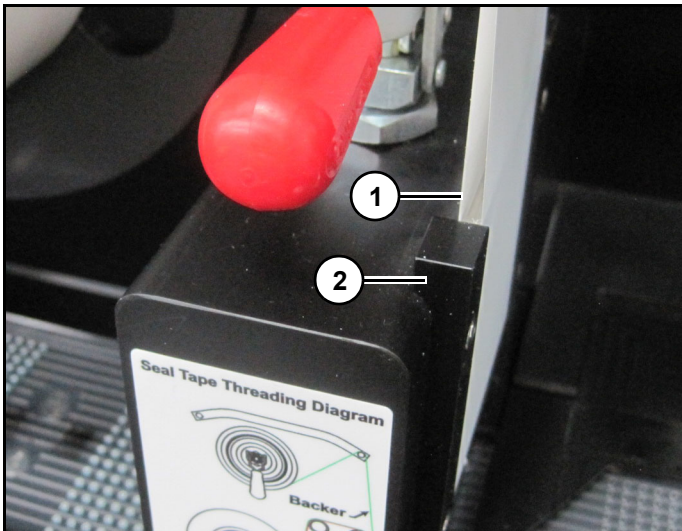

Figure 6
5. Thread seal tape (1) into seal guide (2). (Figure 6)